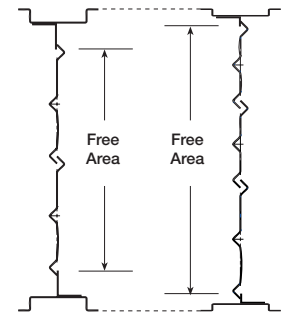

Figure 1 Figure 2
- **Increases Free Area** - Traditional damper designs with a single blade width require oversized blade stops, limiting free area when the blades are open (Figure 1). Greenheck is able to reduce blade stop height, which maximizes free area, and increases damper performance (Figure 2).